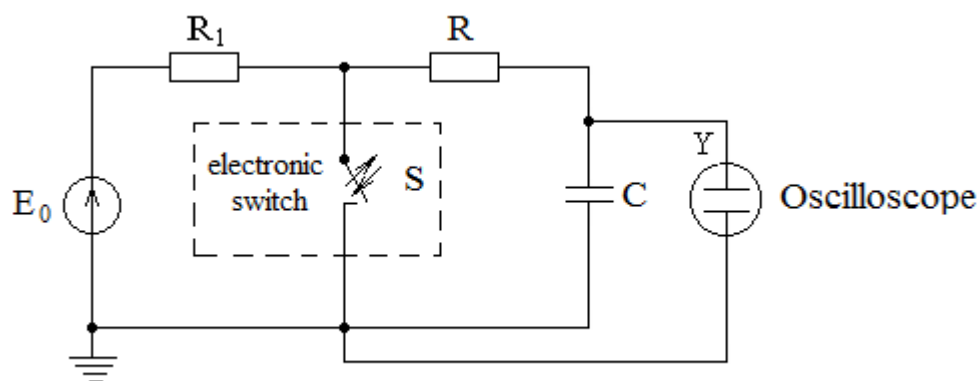

Figure 1.1 – Scheme for research of transient in  $RC$ -circuit
2) Write down the commutation laws and determine the independent initial condition for the  $RC$ -circuit after closing the electronic switch (S) (figure 1.1).
3) What modes are called transitional, steady state and free? Write down the steady state, free and transient components of current and steady state, free and transient components of voltage on the capacitor after switching (S closes) when the  $RC$ -circuit is shorted (figure 1.1).
1.2.1 Assemble the electric circuit in figure 1.1.
1.3.1 Calculate the time constants  $\tau$  and damping factors  $\alpha$  of the circuit shown in figure 1.1 for two given variants of the circuit parameters (tables 1.1 and 1.2.):  $\tau_{RC1}$ ,  $\alpha_{RC1}$  и  $\tau_{RC2}$ ,  $\alpha_{RC2}$ . The results of the calculation are to be written down into table 1.3 (the line is “theoretical calculation”).
1.3.2 Determine the time constant  $\tau_{RC}$  and the damping factor  $\alpha_{RC}$  of the  $RC$ -circuit in figure 1.1 by the images of the voltage curves across the capacitor of  $u_C(t)$  for two given variants of the circuit parameters (points 1.2.4 and 1.2.6). Write down the results of the calculation into table 1.3 (the line is “experiment”).